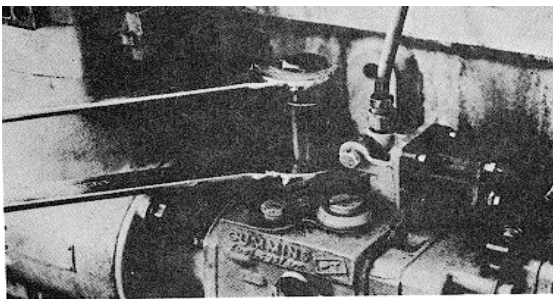

Fig. 5-15, F5300. Removing tachometer drive assembly with ST-1326
3. Carefully drive tachometer drive assembly from pump, using a brass punch and hammer or use ST-667-10 collet with ST-667 Dowel Puller or use ST-1326 to pull tachometer seal, shaft and bushing. Fig. 5-15.